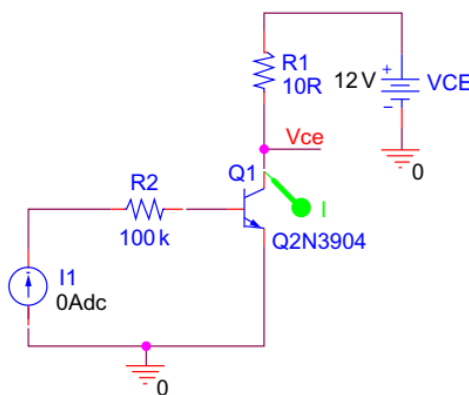

Figure 3 Transistor circuit.
- 2- Open the schematic page and draw the circuit in Figure 3. The transistor can be found in the bipolar library. In the Place Part menu, select the Add Library icon
- 4- Place the rest of the components as shown in Figure 3